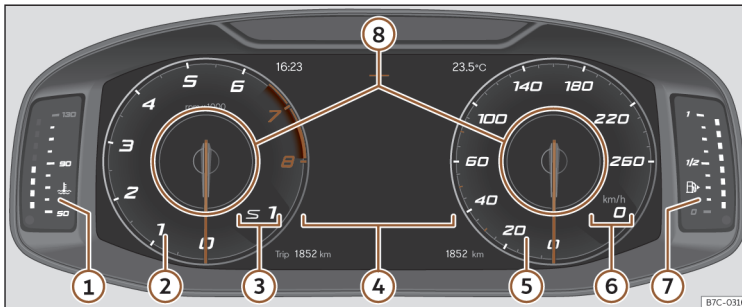

Fig. 2 Digital Cockpit on the instrument panel (classic view).
In all views the information displayed in **Information profiles** can be customised >>> **Fig. 2** ⑧.
The revolutions per minute and speedometer needles appear along the entire length >>> **Fig. 2**.